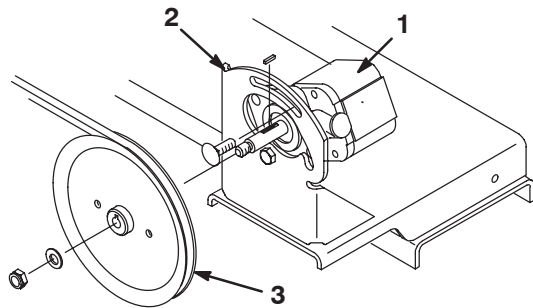

Figure 1
2. Loosen the nuts on the cap screw and carriage bolt that secure the pump to the engine frame (Fig. 1).
3. Remove the locknut and the washer that secure the pulley to the pump shaft and remove the pulley from the shaft (Fig. 1).
4. Remove the carriage bolt and the locknut that secure the pump to the engine frame (Fig. 1).